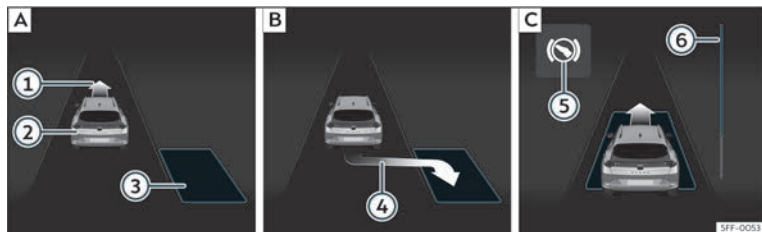
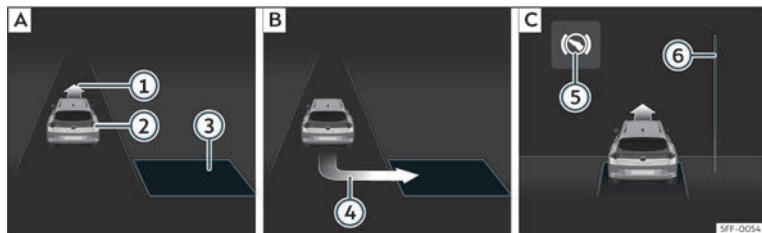

Fig. 180 On the instrument panel display: parallel parking. **A** Finding a parking space. **B** Parking position. **C** Manoeuvring.
Fig. 181 On the instrument panel display: angle parking. **A** Finding a parking space. **B** Parking position. **C** Manoeuvring.
- Look at the display on the instrument panel to see if the space has been detected as “appropriate” and if the correct position for parking has been reached»» **Fig. 180 B** or»» **Fig. 181 B**. The space is considered
- Reverse until the continuous ParkPilot signal sounds; **OR:** reverse until the indication to move forward appears on the instrument panel display >>> Fig. 180 [C] or >>> Fig. 181 [C]; **OR:** reverse until the **Park Assist finished** message appears on the instrument panel display. The progress bar ⑥ indicates the distance to cover >>> page 274 .
- Press the brake pedal until the parking assist system completes the steering wheel turns; **OR:** until the symbol (S) goes out on the instrument panel screen.
- Move forward until the continuous ParkPilot signal sounds; **OR:** move forward until the reverse indication appears on the instrument panel display. The Park Assist system steers the vehicle forward and back until it centres it in the space >>> Fig. 180 [C] or >>> Fig. 181 [C].
The progress bar >>> Fig. 180 ⑥ and >>> Fig. 181 ⑥ on the screen of the instrument panel displays the relative distance to be covered. The greater the distance, the fuller the progress bar. When driving forward, the content of the progress bar decreases upwards, and when reversing, it decreases downwards.